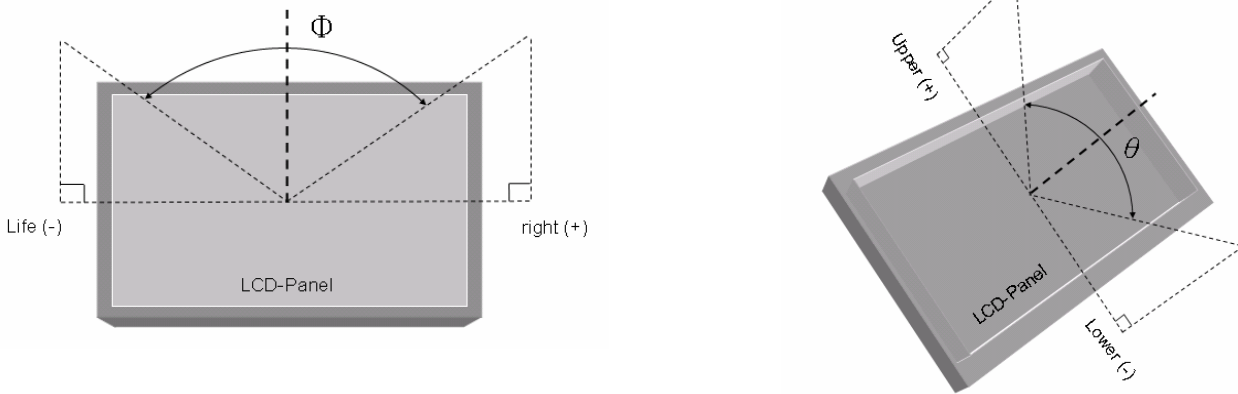

Fig.2 Definition of Viewing Angle
*3) Definition of Viewing Angle(θ, ψ),refer to Fig.2 as below :